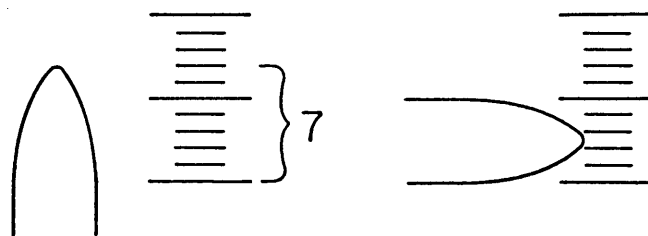

Fig. 8
13. Check for point shape. If good, put aside for plating. If not good, repeat steps 10, 11, 12 and check again, until desired point is obtained or whisker is used up. (Fig. 8)